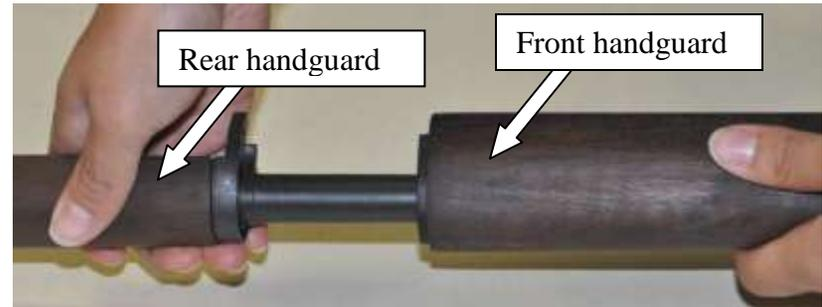

Figure 27 -Removal of front handguard
- 8) Remove the front handguard by sliding it forward over the muzzle (fig 27). *Do not attempt to remove the rear handguard.*